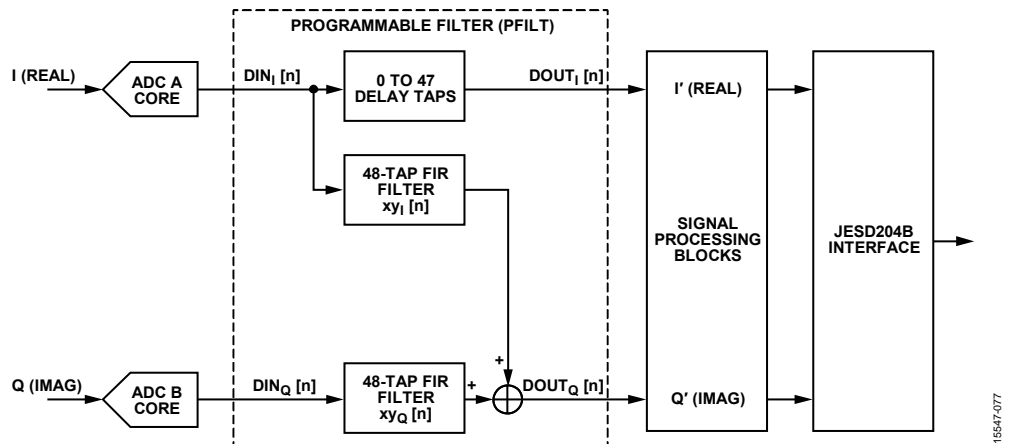

Figure 82. 48-Tap Half Complex Filter Configuration
- Half complex filter using two real 48-tap filters for the I/Q channels (see Figure 82)